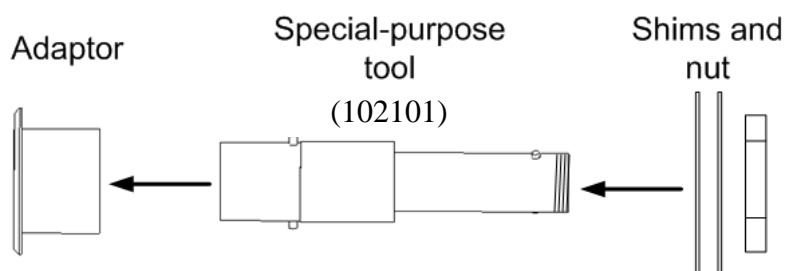

Figure 19: Adapter and special-purpose tool
2. Use a special-purpose tool, see Figure 19, and place the adapter in the hole, glass inwards.